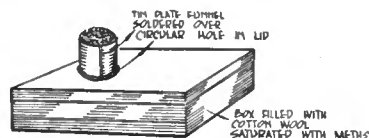

Fig. 9
**Required:**—a flask; some glass tubing; a lamp chimney and a Bunsen burner. If a Bunsen burner is not available you can make quite a good methylated spirits burner from an old tobacco tin filled with cotton wool saturated with methylated spirits (Fig. 9).